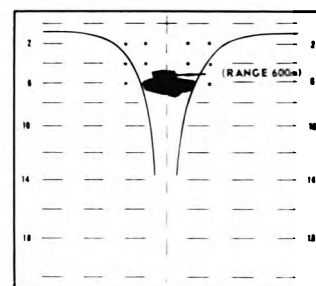

Figure 3.
(3) Tank is at the oblique and the length appears greater than the width (figure 3).